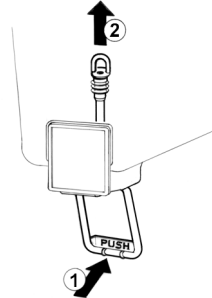

figure 2
5. Pinch tube faucet: push the dispensing handle (1) and take the pinch tube off from its seat (2) (see figure 2).